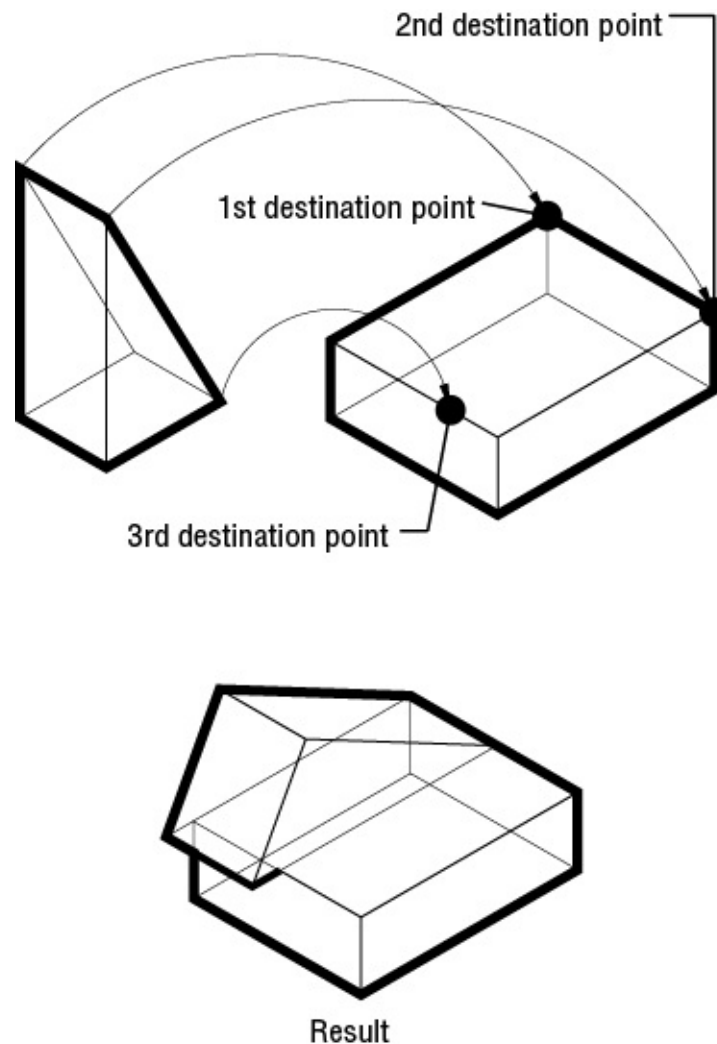

FIGURE 21.66 Aligning two 3D objects
6. At the `Specify third point or [Continue] <C>:` prompt, if two points are adequate to describe the alignment, press ↵. Otherwise, pick a third point on the source object that, along with the first two points, best describes the surface plane that you want aligned with the destination object. Pick the lower-right corner of the wedge shown in Figure 21.66.
7. At the Specify first destination point: prompt, pick a point on the destination object to which you want the first source point to move. (The *destination object* is the object with which you want the source object to align.) This is the top corner of the rectangular shape. (See the first destination point in Figure 21.66.)
8. At the Specify second destination point or [exit] <X>: prompt, pick a point on the destination object indicating how the first and second source points are to align in relation to the destination object. (See the second destination point in Figure 21.66.)
plane with which you want the source object to be aligned. (See the third destination point in Figure 21.66.) The source object will move into alignment with the destination object.